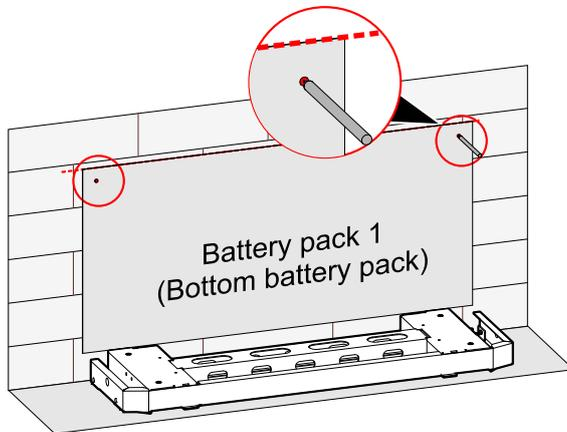
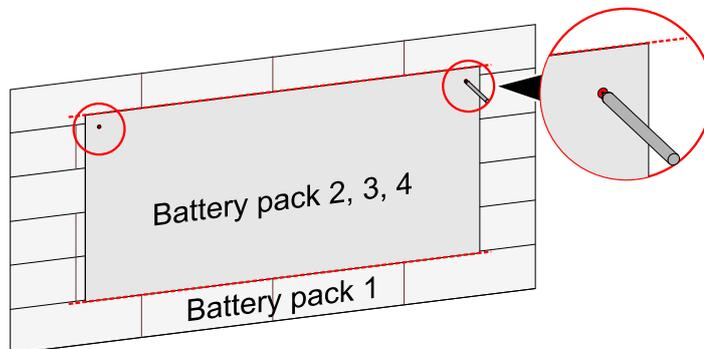
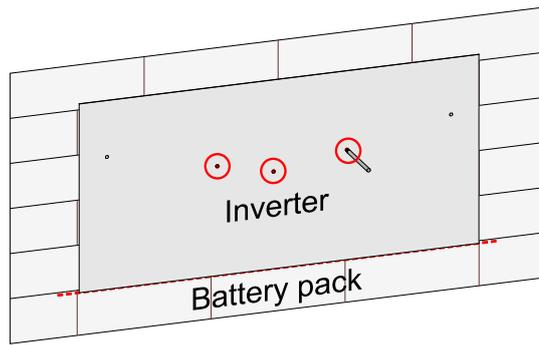

Figure3-16 Mark the installation holes of bottom battery pack
Figure3-17 Mark the installation holes of other battery packs
Figure3-18 Mark the installation holes of inverter
Step 2 Mark the installation holes of battery packs and inverter, as shown in Figure3-16~Figure3-18.
For easy location of battery pack 2, 3, 4 and inverter, after marking the installation holes, it is necessary to draw a line at the top of the position board, as the red dotted line shown in Figure3-16, Figure3-17.